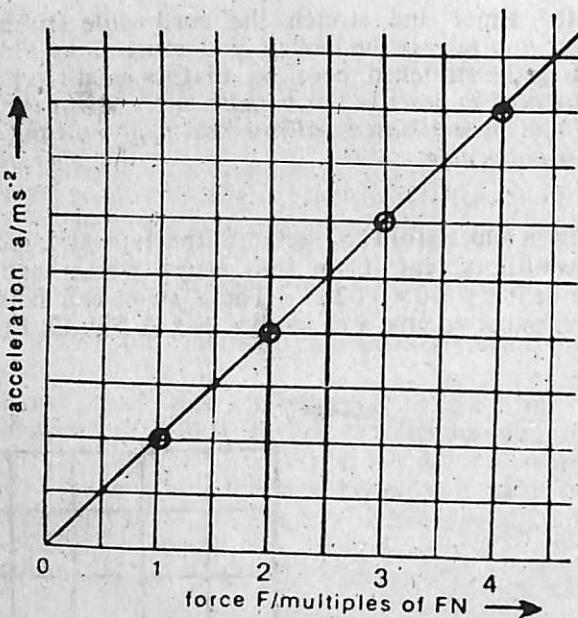

Fig. 12.4. A graph of acceleration against the force applied to the trolley.
7. Plot a graph of ' $a$ ' against ' $F$ '. It should be a straight line passing through the origin as shown in Fig. 12.4.